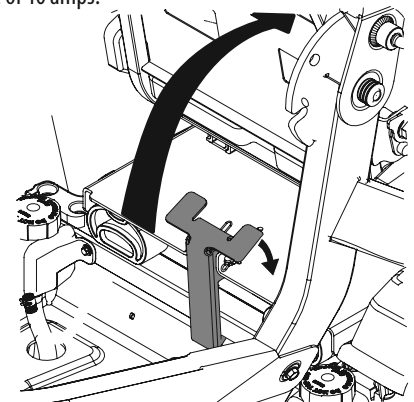

Figure 17
4. Rotate the entire seat pan upward. See Figure 17.